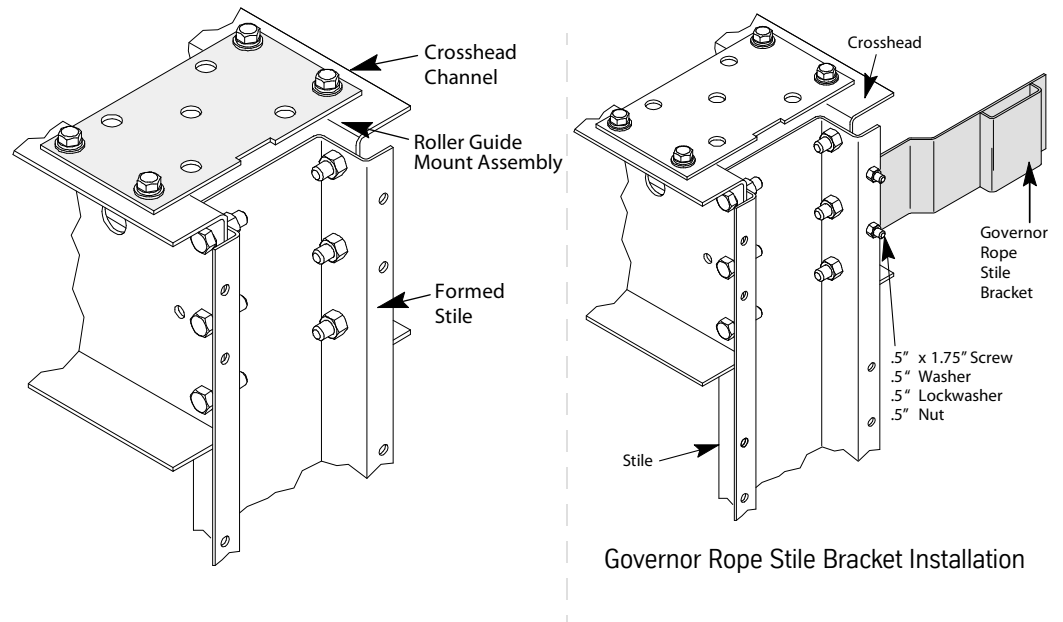

Figure 2 - Roller Guide Mount Assembly
1. Bolt the roller guide mount assemblies to the crosshead. See Figure 2.